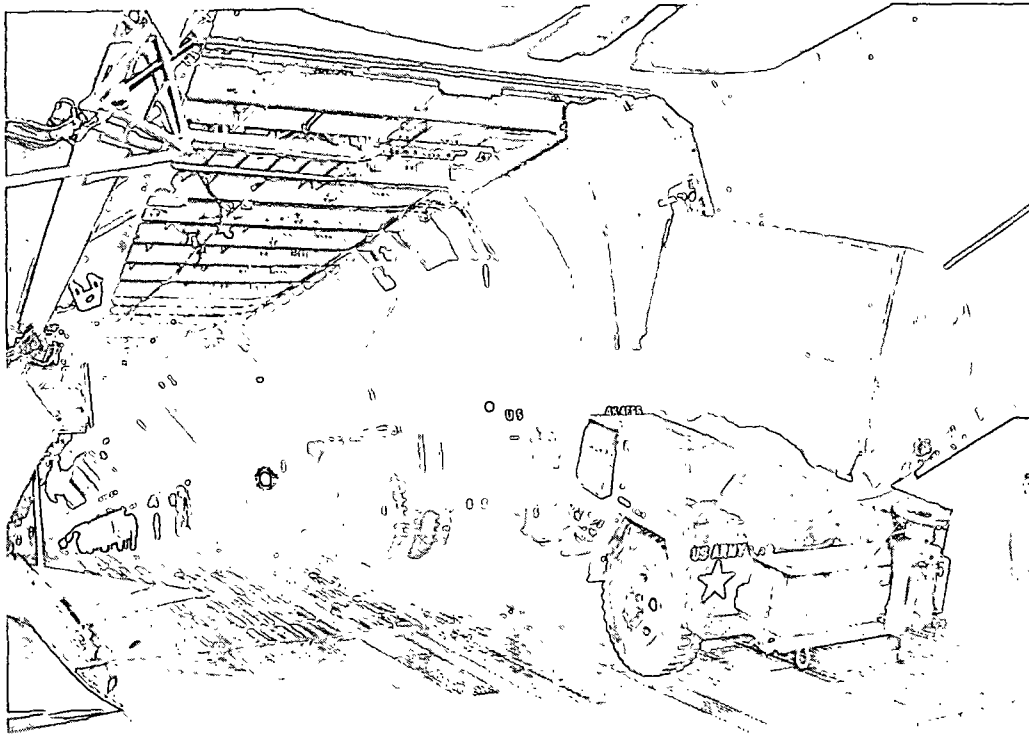

Figure 2-5. Loading M36A2 truck and AMPQ-34 radar over aft ramp.
Drive each vehicle into the cargo compartment over the aft ramp as shown in figures 2-5 and 2-6 and park each vehicle at station prescribed in the tiedown diagram (fig 2-7). Position shoring under the landing gear of item 3.